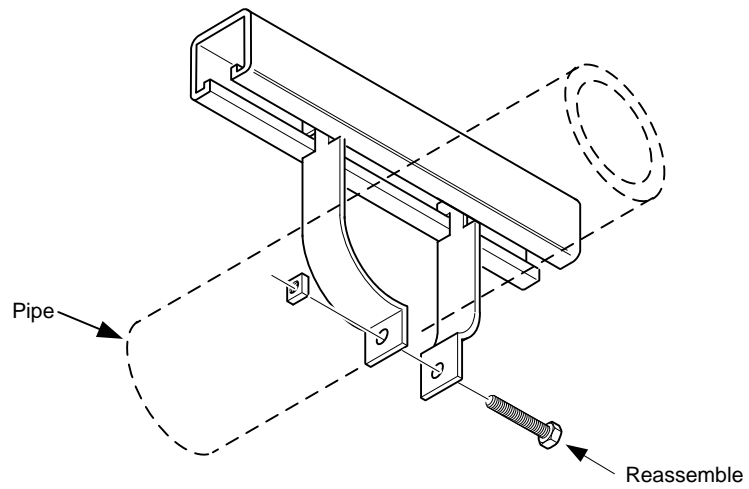

Figure 3-18 ENC82S-Pipe Mounted
- 11) Reassemble U-bracket with screw and nut. Leave loose until enclosure has been centered over the pipe and adjusted for position (see Figure 3-18). Tighten.